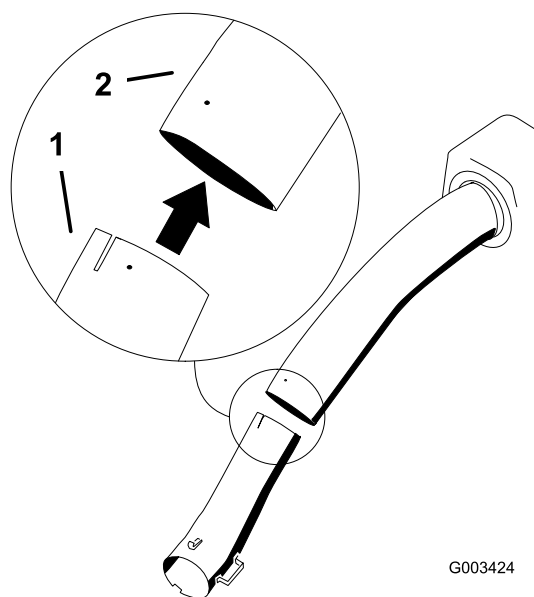

Figure 23
8. Install the lower tube into the upper tube (Figure 23).